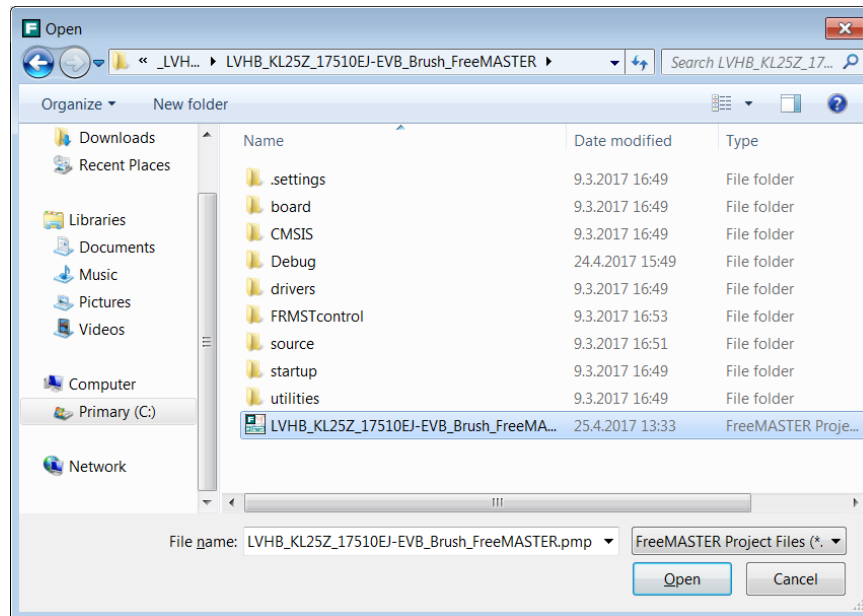

Figure 5. Selection of FreeMASTER project
3. Locate FreeMASTER project file (.pmp) in the example project folder: LVHB_SDK_SW\KDS_Examples\LVHB_KL25Z_17510EJ-EVB_Brush_FreeMASTER. Select **LVHB_KL25Z_17510EJ-EVB_Brush_FreeMASTER.pmp** file then click Open (see Figure 5).